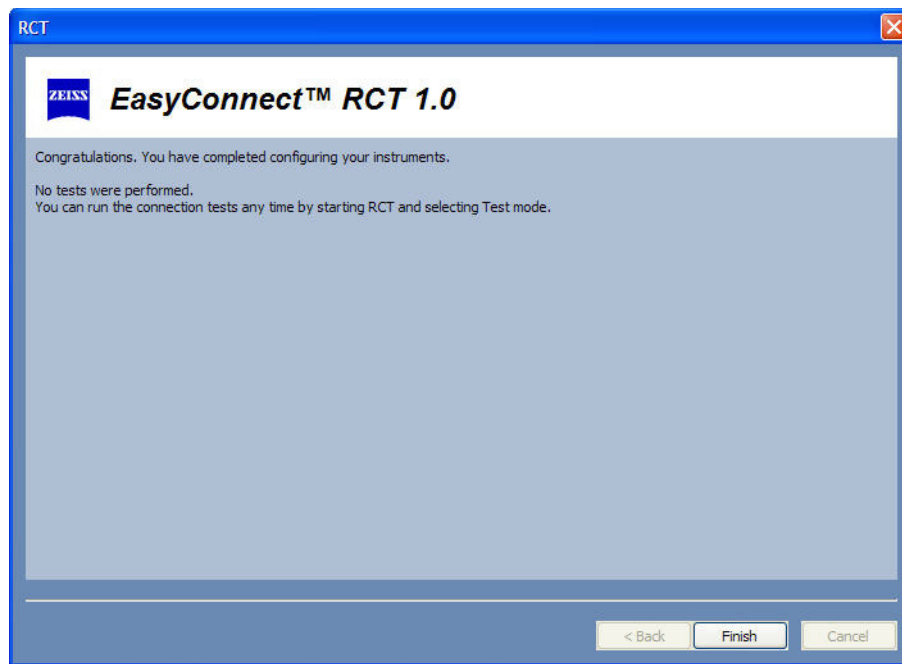

Figure G.21 Completion Screen (No connection tests)
- 5 If the PERFORM CONNECTION TESTS button was *not* selected (default), then after selecting NEXT on the Commit screen, a final Completion screen will be displayed (Figure G.21). If you selected PERFORM CONNECTION TESTS, then each selected instrument will be tested before a final Completion screen will be displayed (see Steps 3–5 in the Test mode section, page G-38–G-42). *Each connection test could take several minutes.* Select FINISH to exit the RCT.